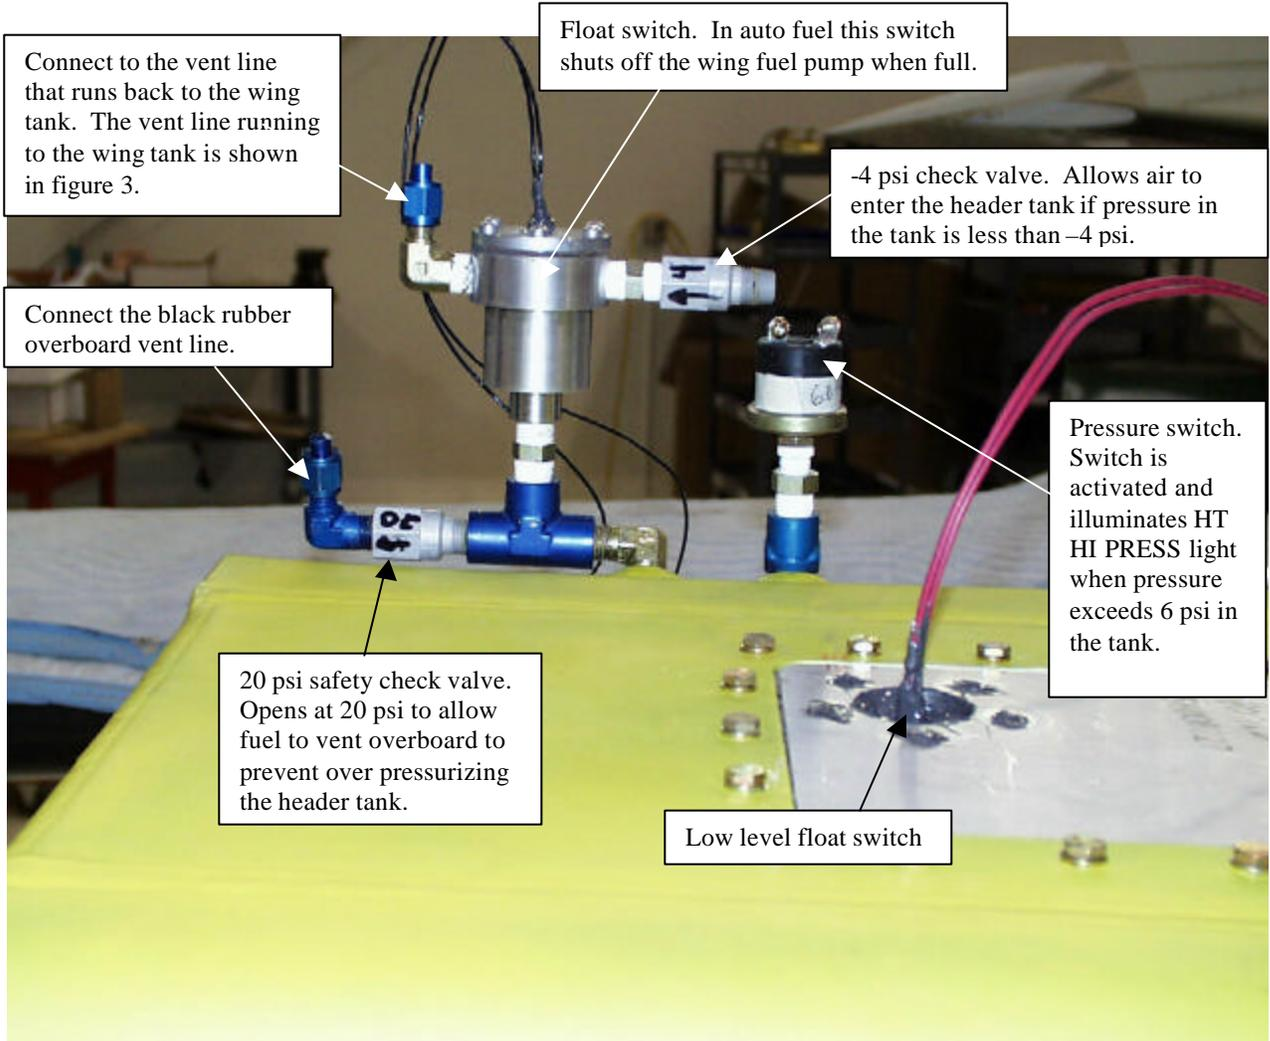

Figure 2
- e. There are several variations from airplane to airplane on the exact configuration of the vent lines running to the header tank. The configuration of float switch, pressure switch, and pressure check valves shown in Figure 2 below is recommended. We no longer use the 4 psi pressure relief valve in the vent line running from the header tank to the wing tank. Therefore, it should be removed and returned to Rocket Engineering.
- f. Install the float switch, pressure switch, and pressure relief valve as shown in Figure 2.